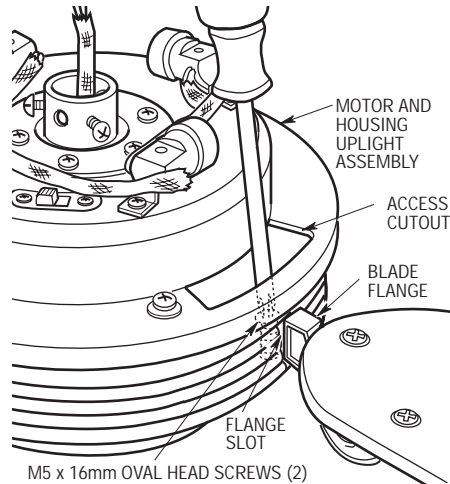

Figure 2
- 2. Rotate the motor and housing upright assembly so that one of the flange slots in the motor and housing upright assembly lines up below the access cutout in the motor and housing upright assembly (Figure 2). Insert the blade flange through the slot and line up the holes in the flange with the threaded holes in the motor and housing upright assembly.
- 3. Carefully position a M5 x 16mm oval head screw in one flange hole and loosely tighten the screw (Figure 2). Install the second screw in the same manner and securely tighten both screws. Repeat steps 2 and 3 for the remaining four blade assemblies.